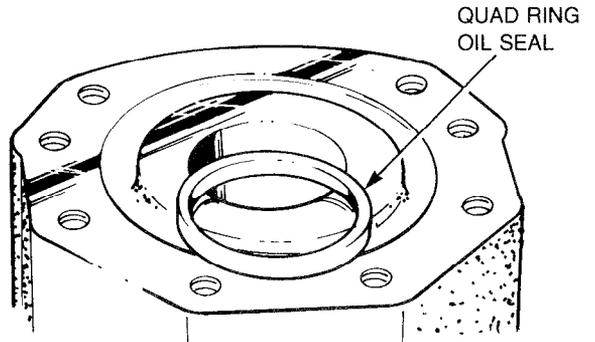

Figure 280 — Quad Ring Oil Seal — Removal
- y. Remove the Quad ring oil seal from the gear housing and discard the oil seal (see Fig. 280).